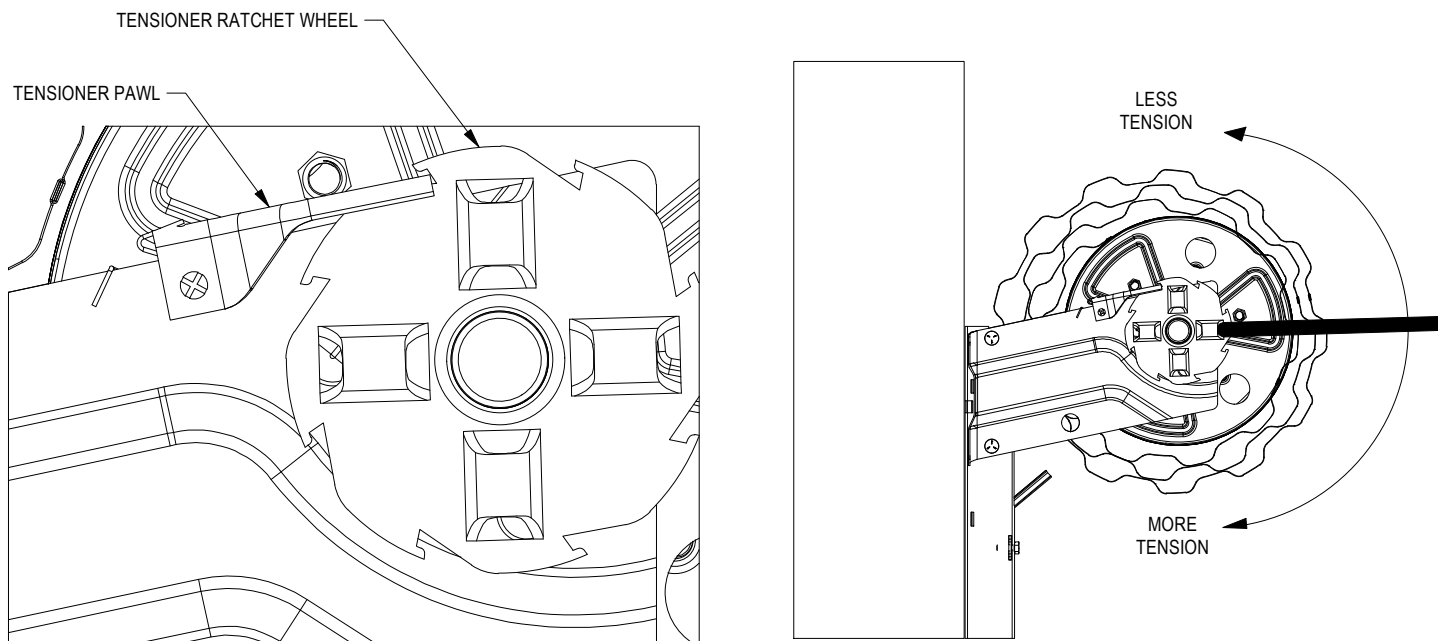

FIGURE 23:
- If door is easy to close but difficult to open; increase spring tension. See Figure 23, on Page 14.
- If door is difficult to close but easy to open; decrease spring tension. See Figure 23, on Page 14.